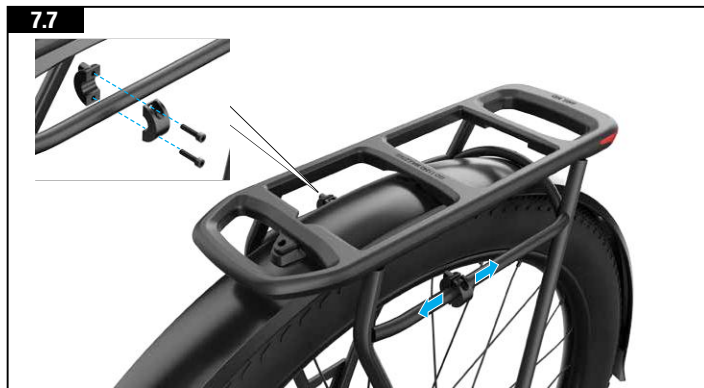

Fig. 7.7
- The high beam is activated on the handlebar-mounted light switch (fig 7.7). The switch illuminates when the high beam is activated.